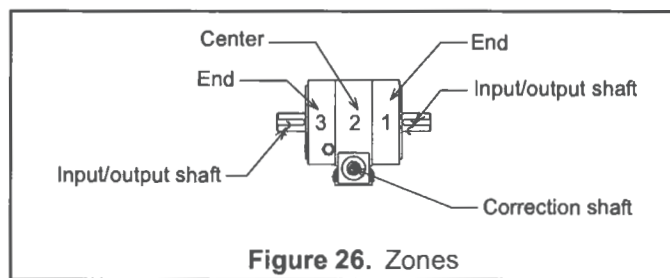

Figure 26. Zones
4. Because all three zones of the transmission unit can be positioned independently relative to each other, it is necessary to specify the required position of each successive zone. Each zone is referenced by numbers 1, 2, 3 (See Figure 26). The required assembly is simply represented by the letters corresponding to the desired position of each zone.